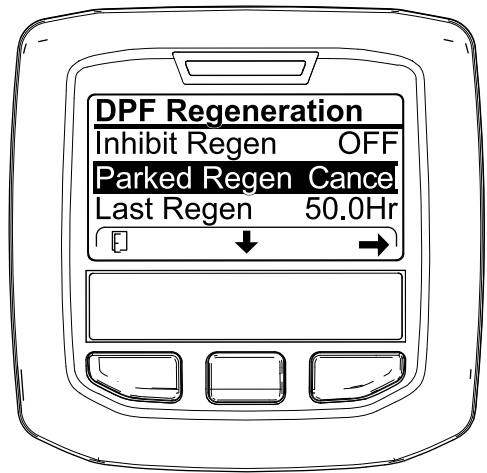
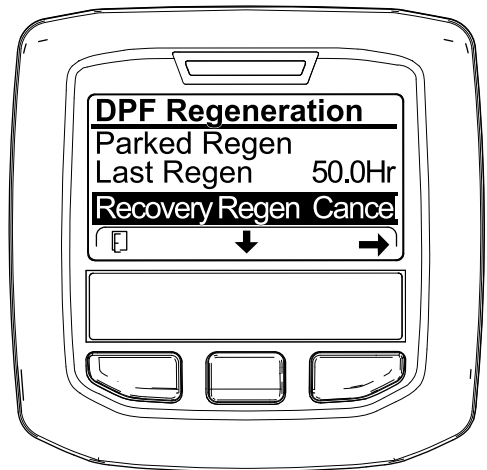

Figure 59
Figure 60
1. Access the DPF Regeneration menu (Figure 59).
2. Press the center button to scroll down to the PARKED REGEN CANCEL (Figure 59) or the RECOVERY REGEN CANCEL option (Figure 60).
3. Press the right button to select the Regen Cancel entry (Figure 59 or Figure 60).